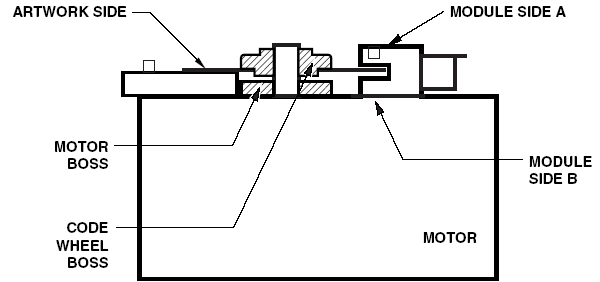
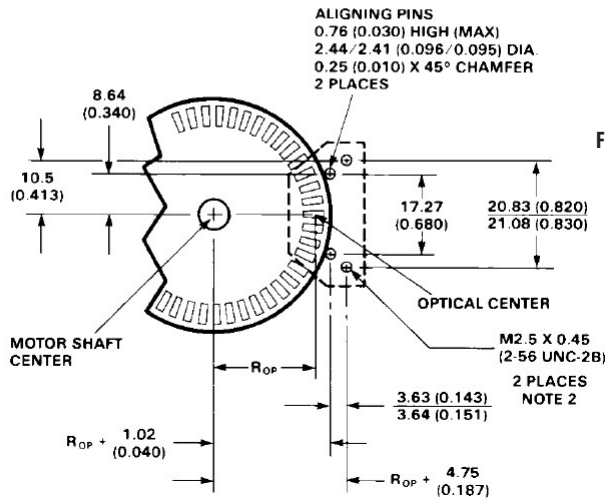

Figure 3. Alignment Tool is Used to Set Height of Codewheel.
Figure 5. Mounting Plane Side A.
Figure 2 shows a mounting tolerance *requirement* for proper operation of the HEDS-9040 and HEDS-9140. The Aligning Recess Centers must be located within a tolerance circle of 0.005 in. radius from the nominal locations. This tolerance must be maintained whether the module is mounted with side A as the mounting plane using aligning pins (see Figure 5), or mounted with Side B as the mounting plane using an alignment tool (see Figures 3 and 4).
2. Set codewheel height by placing alignment tool on motor base (pins facing up) flush up against the codewheel as shown in Figure 3. Tighten codewheel setscrew and remove alignment tool.
The HEDS-9040 and HEDS-9140 can also be mounted using aligning pins on the motor base. (Hewlett-Packard does not provide aligning pins.) For this configuration, Side A must be used as the mounting plane. The aligning recess centers must be located within the 0.005 in. R Tolerance Circle as explained above. Figure 5 shows the necessary dimensions.
centers must be located within the 0.005 in. Radius Tolerance Circle as explained in "Mounting Considerations." Figure 5 shows the necessary dimensions.